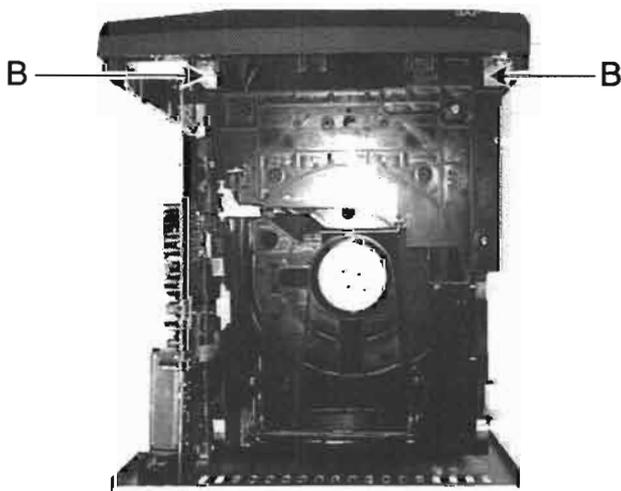
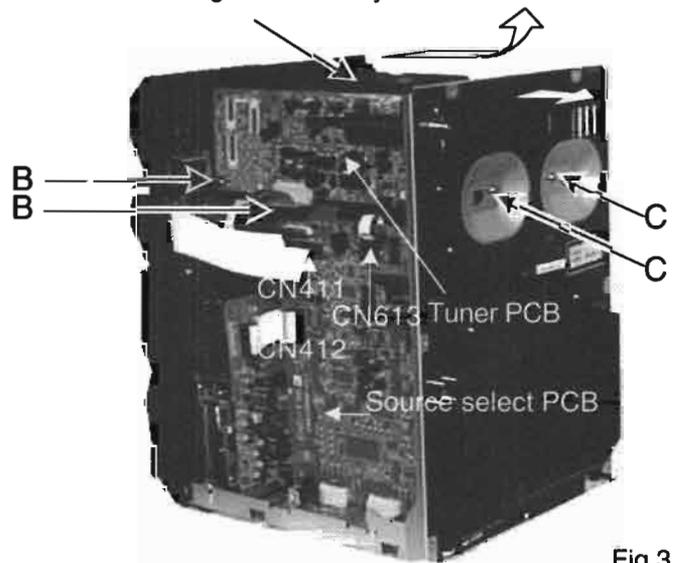

Fig. 2
Fig. 3
1. Remove 2 screws(B) fastening up side (Fig. 2).
2. Remove 2 screws(C) fastening rear side.
3. Remove 2 screws(B) holding the PCB's.
5. Remove the changer mechanism ass'y (Fig. 3).